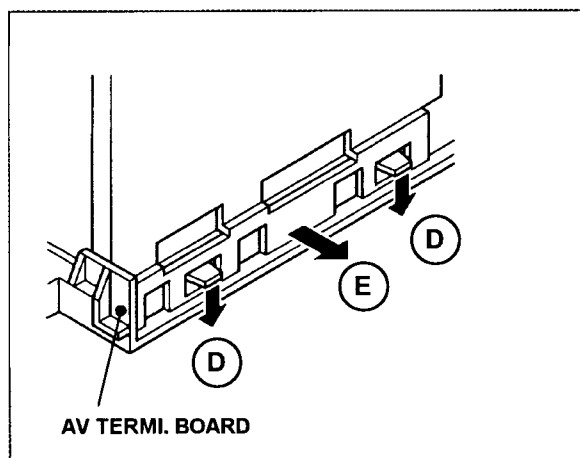

Fig.1
3. Pressing the claws marked **D**, remove the AV TERMI. board toward you marked **E** as shown in Fig. 1.